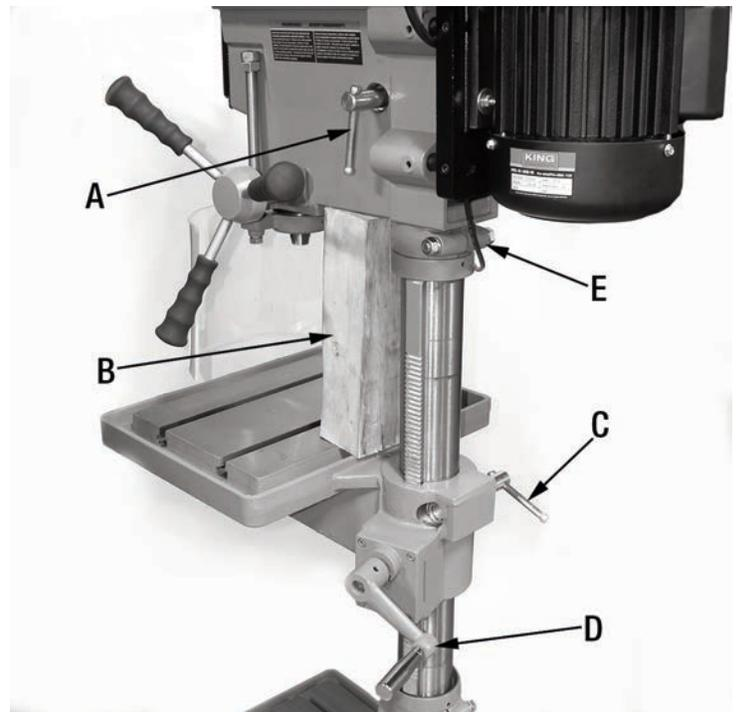

FIGURE 7
1. Loosen the head locking handle (A) Fig.7 and place a block of wood (B) on the table and under the bottom of the head as shown.
2. Loosen table lock handle (C), then turn table height adjustment handle (D) to raise the head.
3. Once the head is positioned at a comfortable height, retighten head locking handle (A) and table lock handle (C).
4. Loosen and move up the column collar (E) until it comes in contact with the bottom of the head, secure the column collar up against the head by tightening the large hex. bolt and hex. nut.